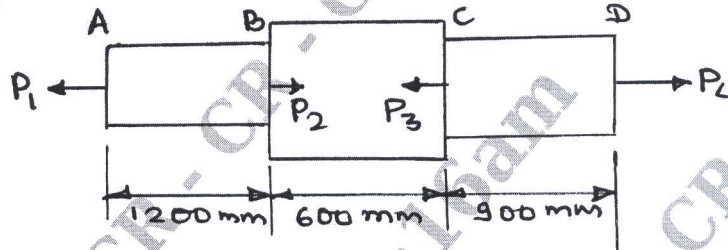

Fig.Q1(c)
- A member ABCD is subjected to point loads  $P_1$ ,  $P_2$ ,  $P_3$  and  $P_4$  as shown in Fig.Q1(c). Calculate the force  $P_2$  necessary for equilibrium if  $P_1 = 45\text{kN}$ ,  $P_3 = 450\text{kN}$  and  $P_4 = 130\text{kN}$ . Determine stresses in each member and also determine the total elongation of the member assuming the  $E = 2.1 \times 10^5 \text{N/mm}^2$ .